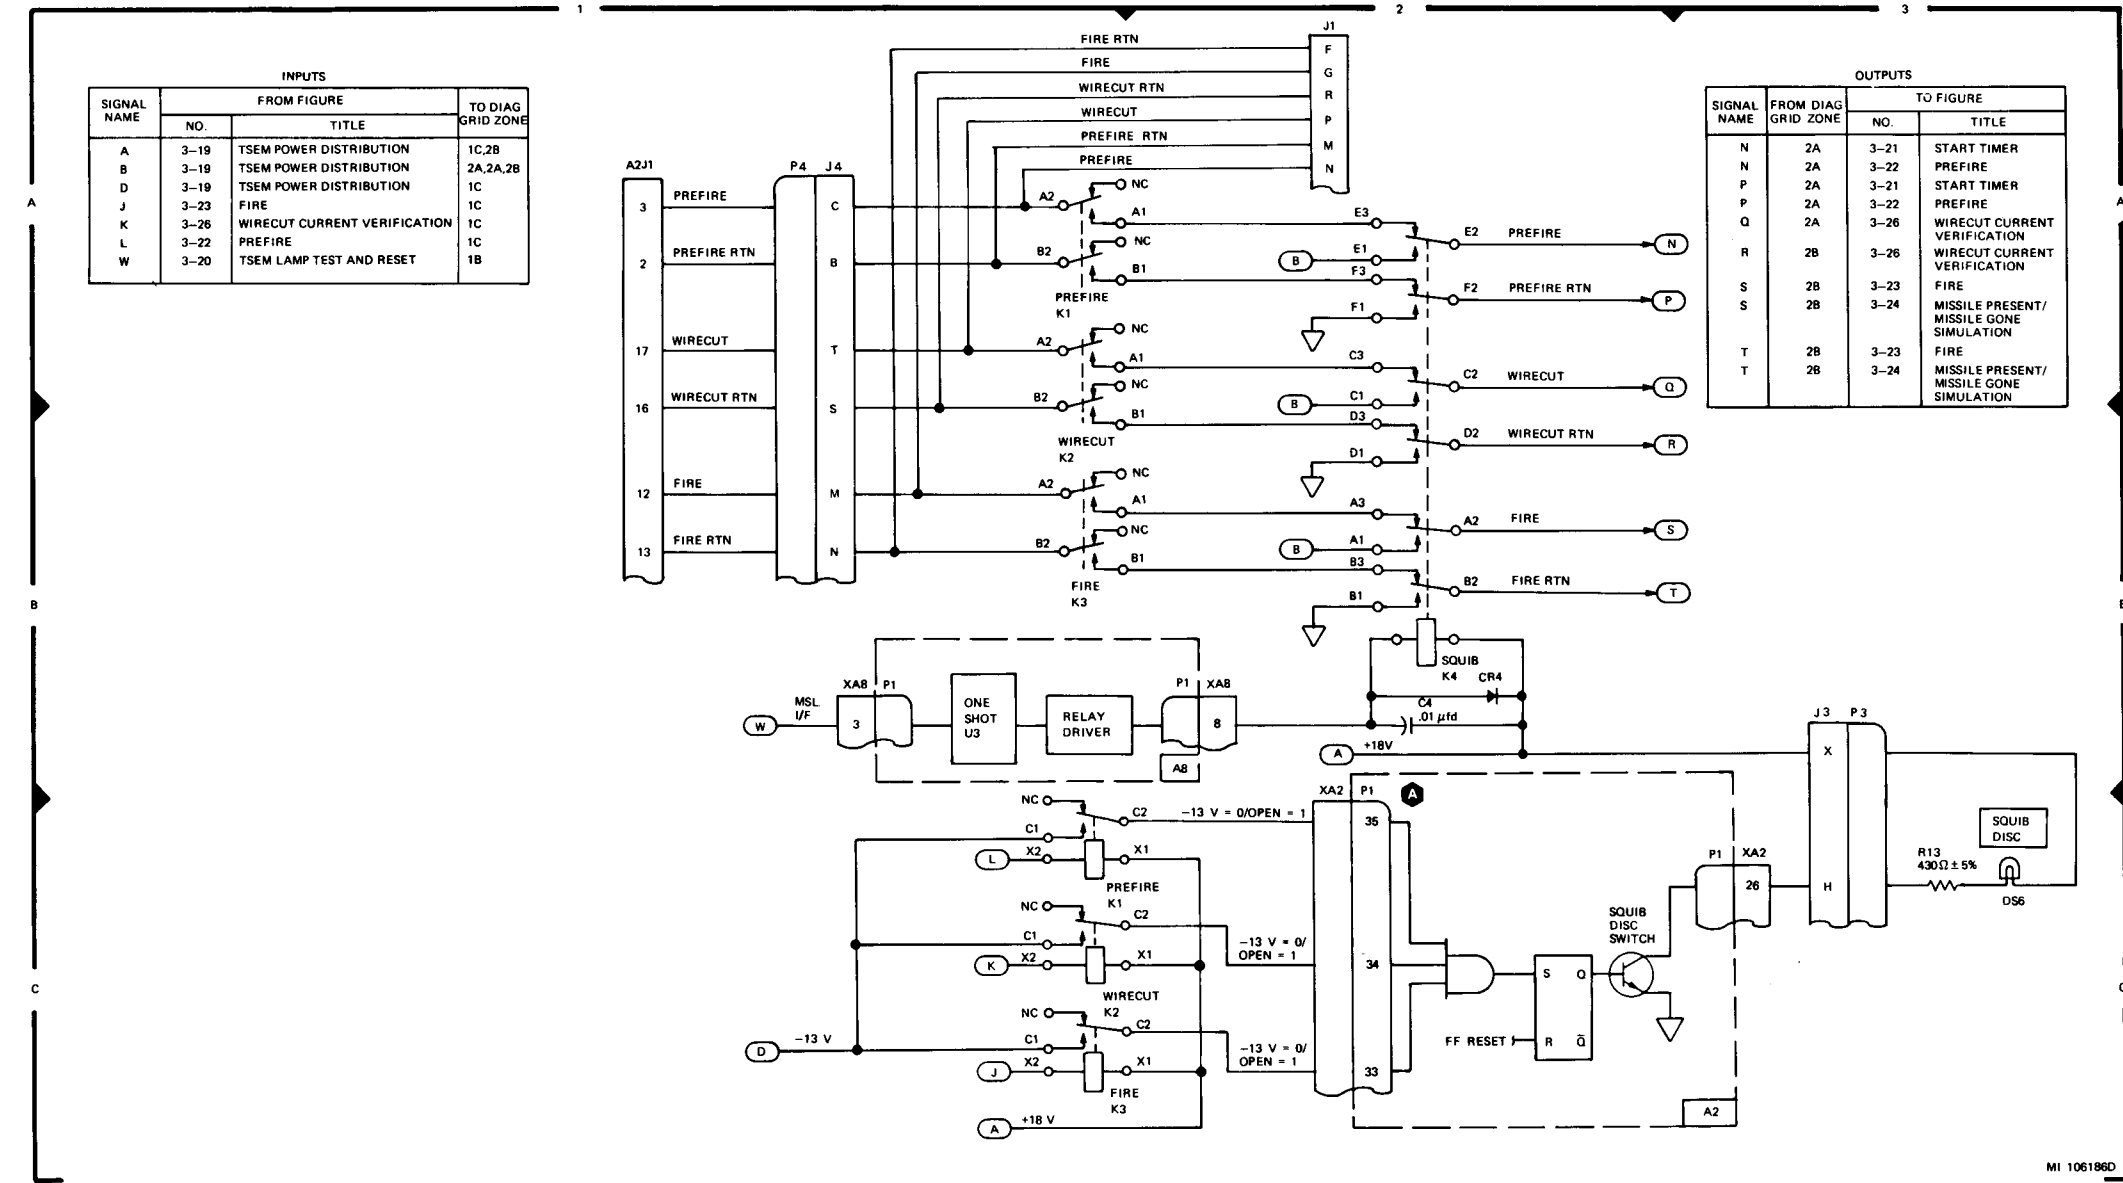

Figure 3-25. Prefire/Fire/Wirecut Squib Relays Functional Diagram
g. Prefire/Fire/Wirecut Squib Relay Function (Fig. 3-25). Proper functioning of the prefire/fire/wirecut squib load relays is tested by sensing the presence or absence of -13 V on the C2 contacts of prefire relay K1, wirecut relay K2, and fire relay K3.
A2	Figures 3-25, 3-26,
A8	Figures 3-25, 3-28,